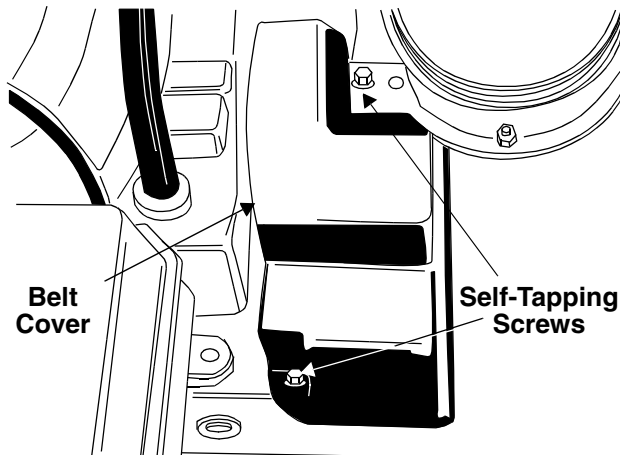

Figure 22
1. Remove the plastic belt cover on the front of the engine by removing the two self-tapping screws. See Figure 22.